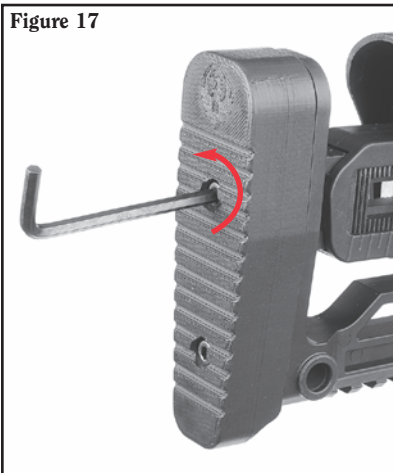

Figure 17
2. Using a 5/32" Allen wrench, loosen, but do not remove, the two screws on the back of the butt pad. (See Figure 17.)